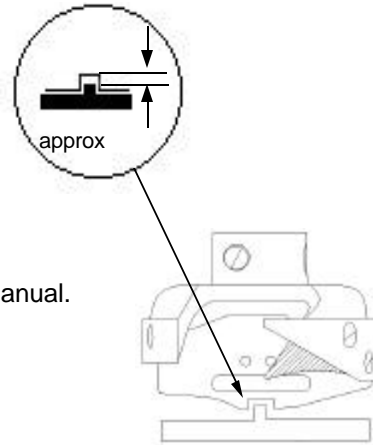

Figure 3
5. Move Position Finger forward or back to adjust Position Finger nose approximately halfway into notch on Hook Basket, allowing enough room for thread to pass through easily. See *figure 3*